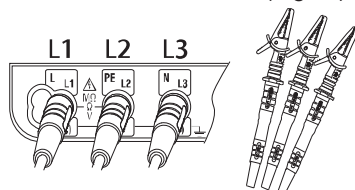

Fig.43
2. Insert the Test Leads into the instrument. (Fig.43)